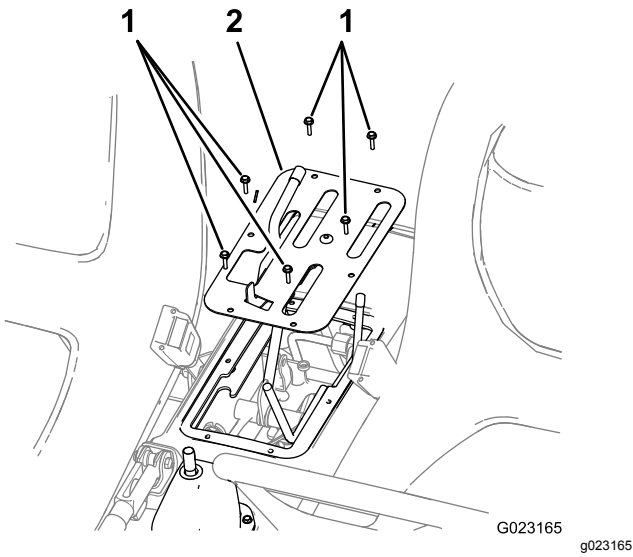

Figure 3
3. Remove the 6 screws securing the outside edge of the cover plate of the center console to the chassis and remove the cover plate (Figure 3).
4. Disconnect the reservoir hose from the radiator and plug or clamp it to retain coolant (Figure 3).